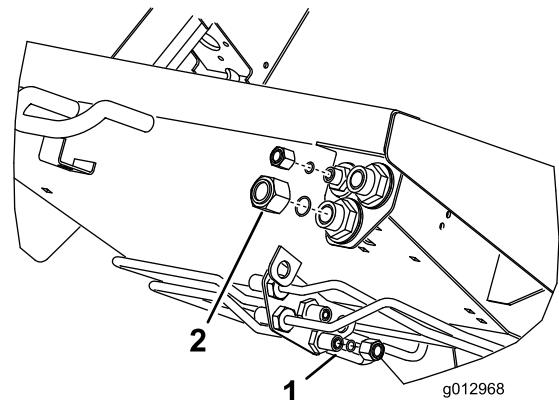

Figure 3
3. Disconnect the wing deck lift cylinder hydraulic hoses from the hydraulic ports on the traction unit (Figure 3). Cap unused ports and plug unused hoses.
4. Disconnect the wing deck motor hoses from the hydraulic ports under the traction unit platform (Figure 3). Cap unused ports and plug unused hoses.